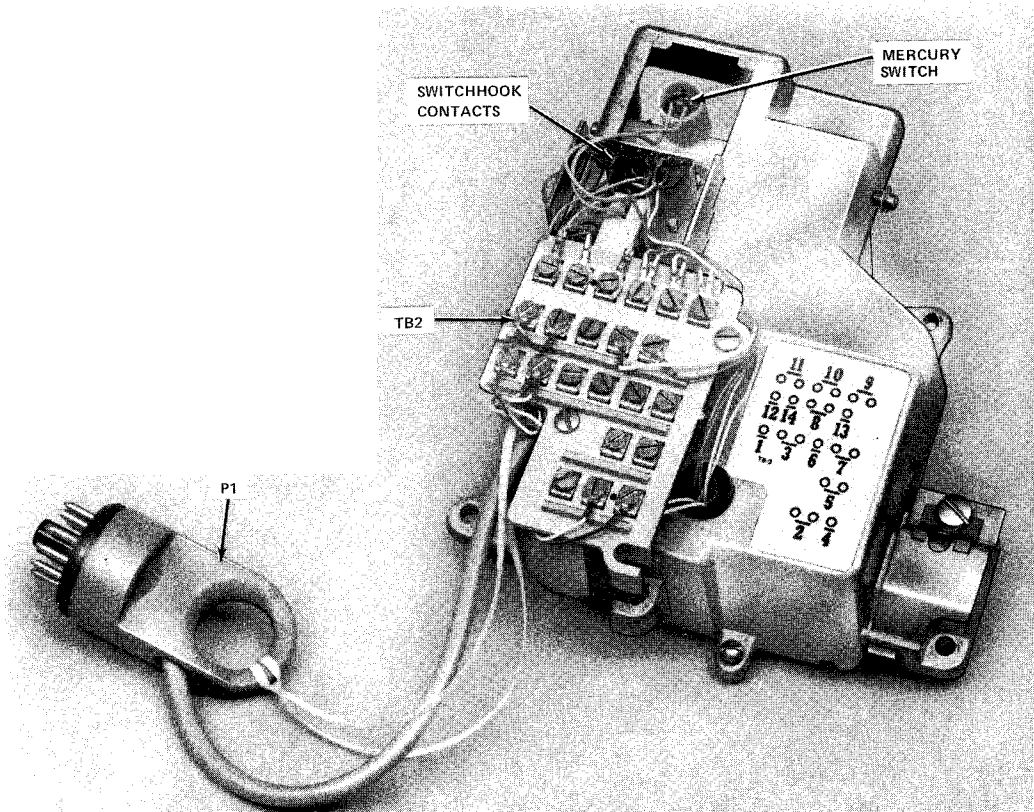

Fig. 7—Typical Coin Dial Unit
- (1) **B Relay**—The B relay contacts close during totalizer readout and place a capacitor across the speech circuit to prevent the customer from hearing coin signals.
- (2) **Coin Signal Oscillator**—Generates a dual frequency signal, controlled by totalizer readout indicating to the ACTS receiver or operator what value of coin has been deposited.
- (3) **A Relay**—Provides ground lifting in DTF mode and controls totalizer readout in CF mode.
**E. Coin Dial Unit (Fig. 7)**
**2.13** The dial and housing assembly contains the switchhook contacts and rotary or TOUCH-TONE dial. The switchhook contacts are operated as the handset is lifted. Contacts SH1, SH2, and SH4 perform the same functions in both CF and DTF modes. SH3 differs as described in (3).